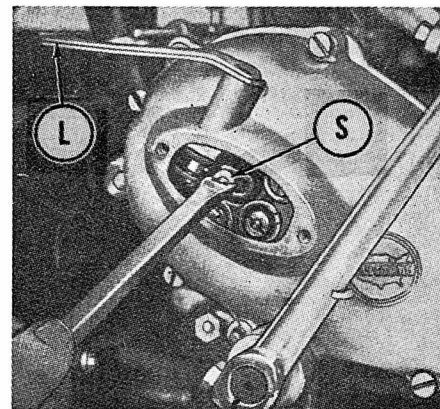

Fig. A2-3—Clutch is adjusted at screw (S). Refer to text.
**CLUTCH.** The clutch, located on the right end of the transmission input shaft, is of multiple disc wet type. Adjustment is accomplished after removing small cover as shown in Fig. A2-3. The center adjusting screw (S) should be adjusted to provide 0.08-0.12 inch free play at end of lever (L). The clutch cable should be adjusted to just take up excessive play in controls without causing any pre-load. The clutch spring adjusting nuts can also be adjusted. Make certain that all are adjusted evenly.